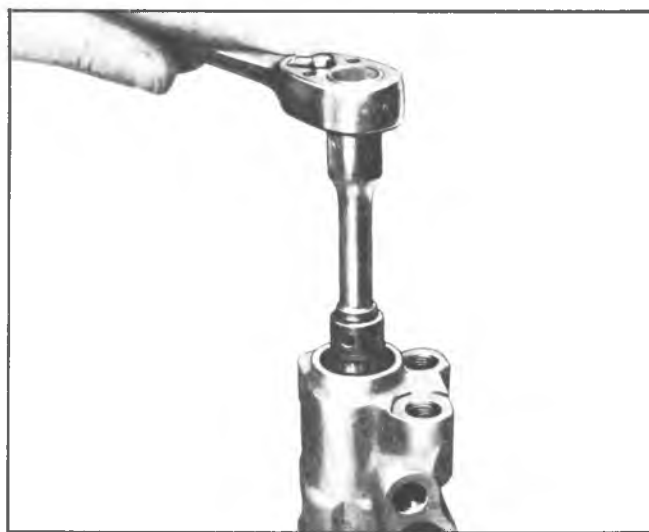

Fig. 64--Removing Adjusting Nut
2. Remove adjusting nut (fig. 64).